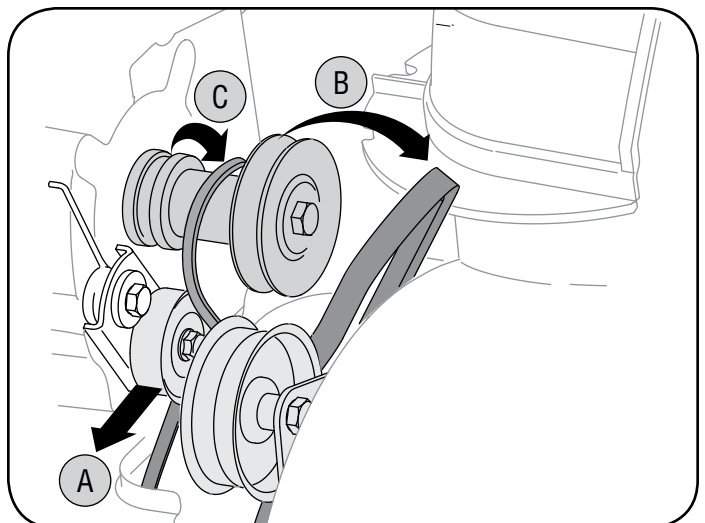

Figure 18
- Grasp the idler pulley and pivot it toward the right. See Figure 18. Insert a screw driver through aligning holes in both the idler bracket and the engine. This will release tension on drive belt.
- Lift the drive belt off engine pulley. See Figure 18.